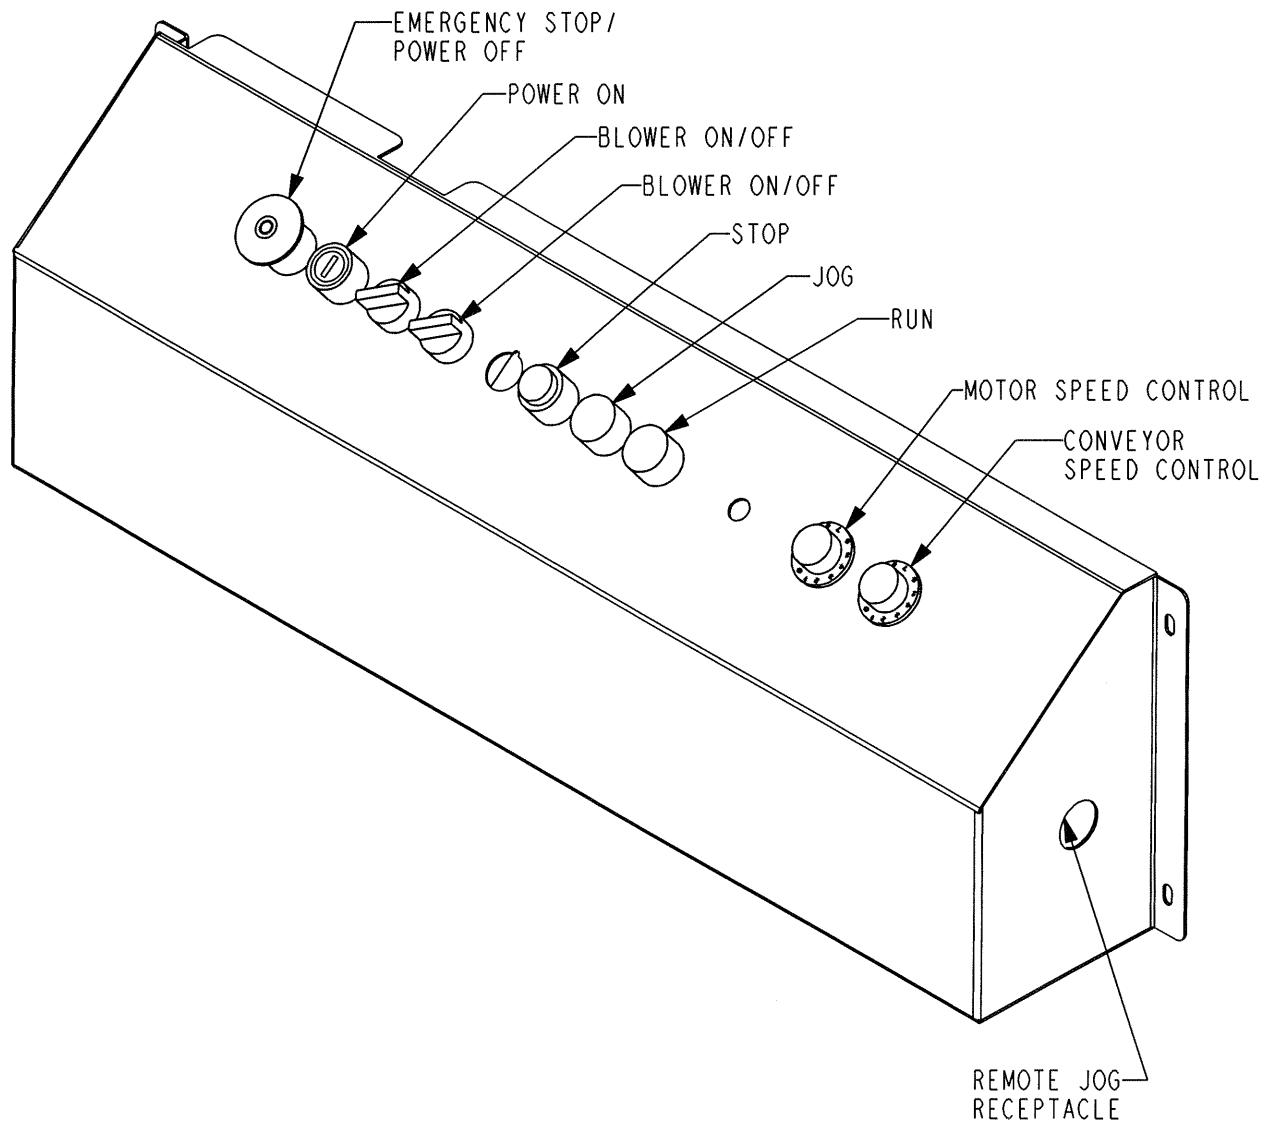

FIGURE 5.0
5.1 Control Panel (See Figure 5.0)
7. Turn the vacuum tabletop blower pumps on. **See Figure 5.0**